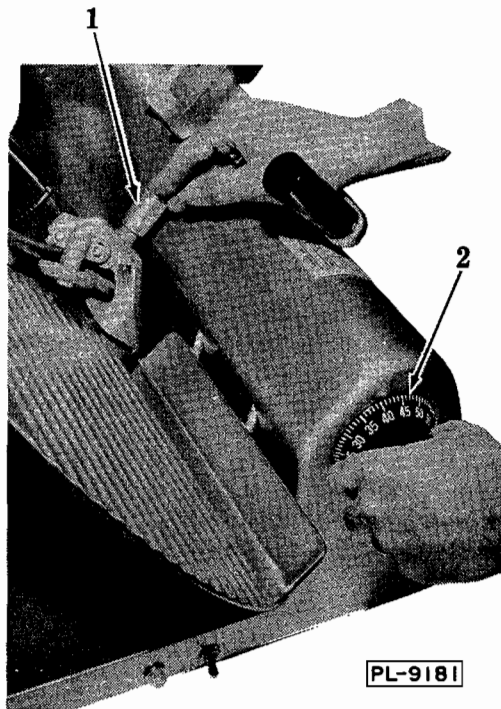

Fig. 5
- g. Turn the slice adjusting knob (2, Fig. 5) slowly to the right. This will bring the grinding wheel into contact with the beveled side of the knife.
- j. As soon as burr appears depress truing wheel by pressing on plunger (1, Fig. 5) with right hand as shown. Grind and true simultaneously for approximately 3 seconds.